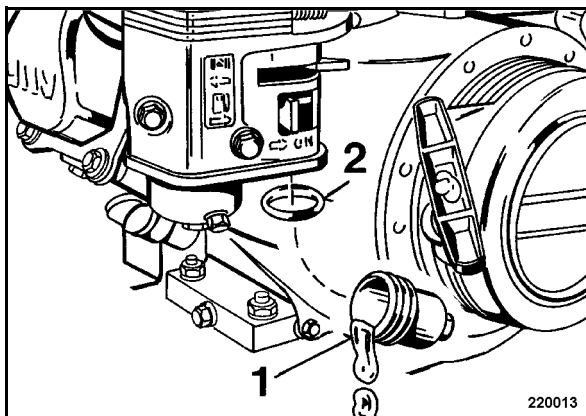

Fig. 51
- Unscrew the fuel sludge filter 1 (Fig. 51) with the fuel cock closed and wash it out with fuel.
- Turn the fuel sludge filter in tightly and mind the O-ring (2).